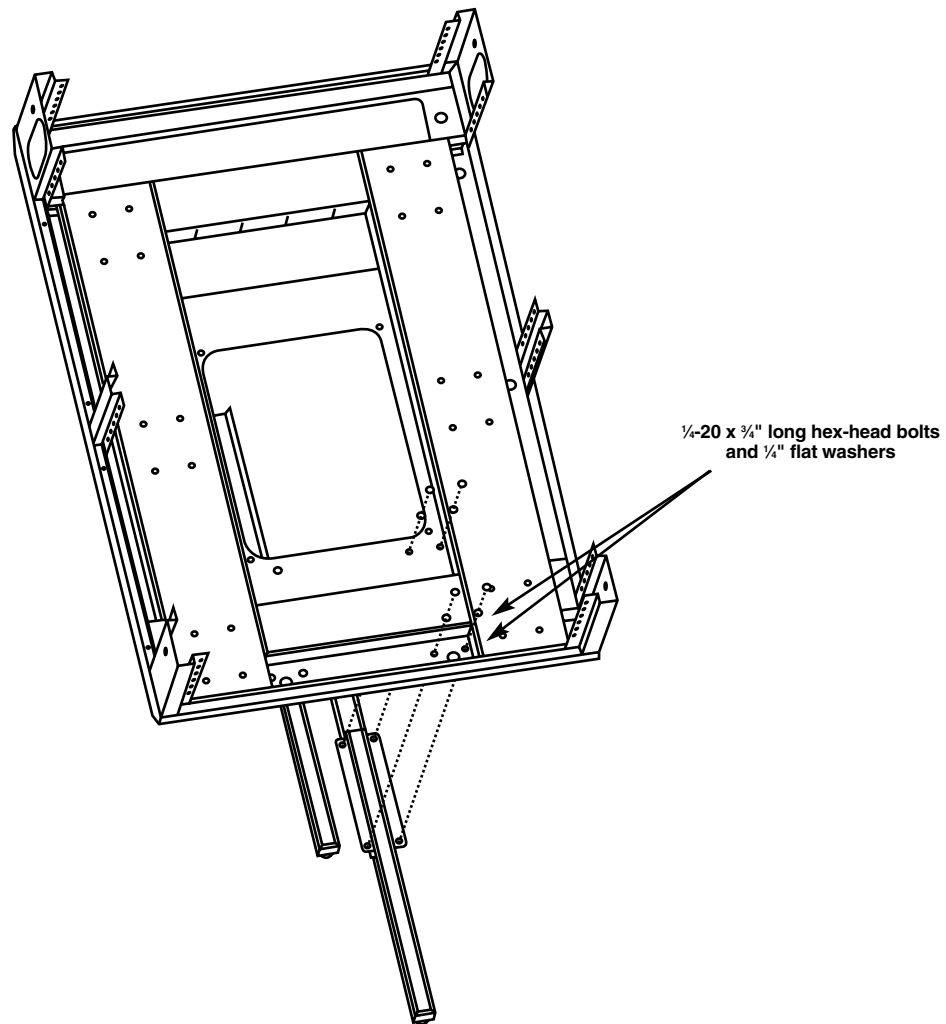

Figure 3-16. Fastening the leg assembly to the enclosure.
- If you are shipping the Elite II Server Cabinet for repair, make sure you include everything that came in the original package. Before you ship, contact Black Box to get a Return Authorization (RA) number.
2. With the enclosure on glides or casters, place both leg assemblies under the enclosure's front. The glide in the anti-tip leg must be be at the assembly's front end (see Figure 3-16).